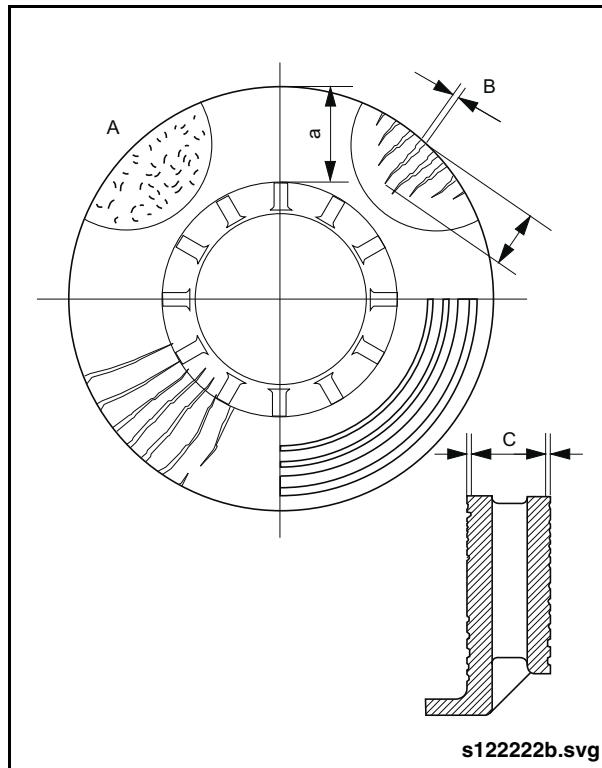

Fig. 2-114: Brake Disc Condition
3. Inspect the brake disc for cracks and scoring. See "Fig. 2-114: Brake Disc Condition" on page 103.